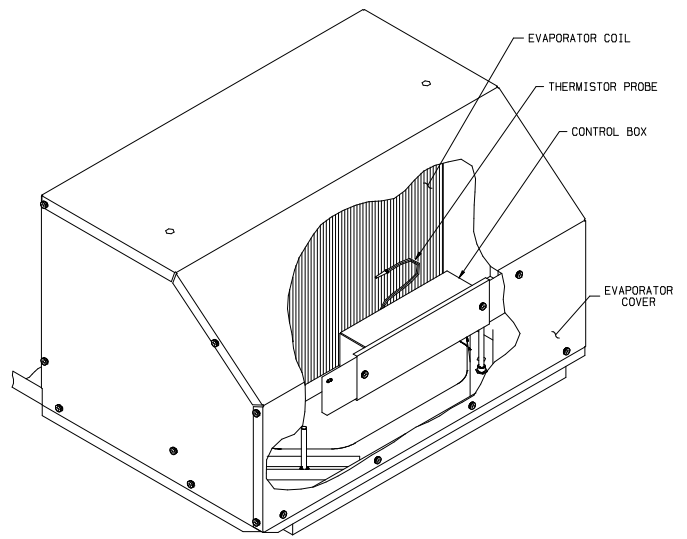

FIGURE 2
7. Insert the evaporator freeze sensor between evaporator fins near the bottom center of the evaporator and between the bottom two tubes (See Figure 2). Insert straight in until contacting the staggered tube directly in back of the insertion point. When contact has been made, elevate the exposed end of the sensor approximately 45 degrees, then continue insertion at a 45 degree angle until the sensor is completely embedded into the evaporator.
Insert the evaporator freeze sensor between evaporator fins near the bottom center of the evaporator and between the bottom two tubes (See Figure 2). Insert straight in until contacting the staggered tube directly in back of the insertion point. When contact has been made, elevate the exposed end